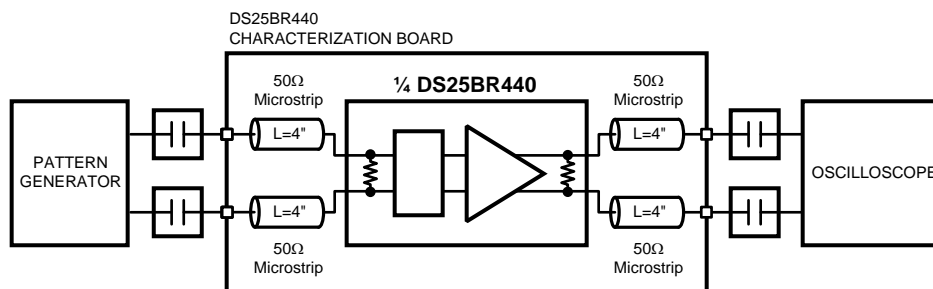

Figure 5. Jitter Performance Test Circuit
| JITTER PERFORMANCE WITH EQ = Off, PE = Off (3) (Figure 5)           |   |  |            |      |      |             |